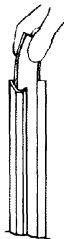

FIGURE 15
3. Slide out gray vinyl decorator strip located in the inset of the handle. See Figure 15.